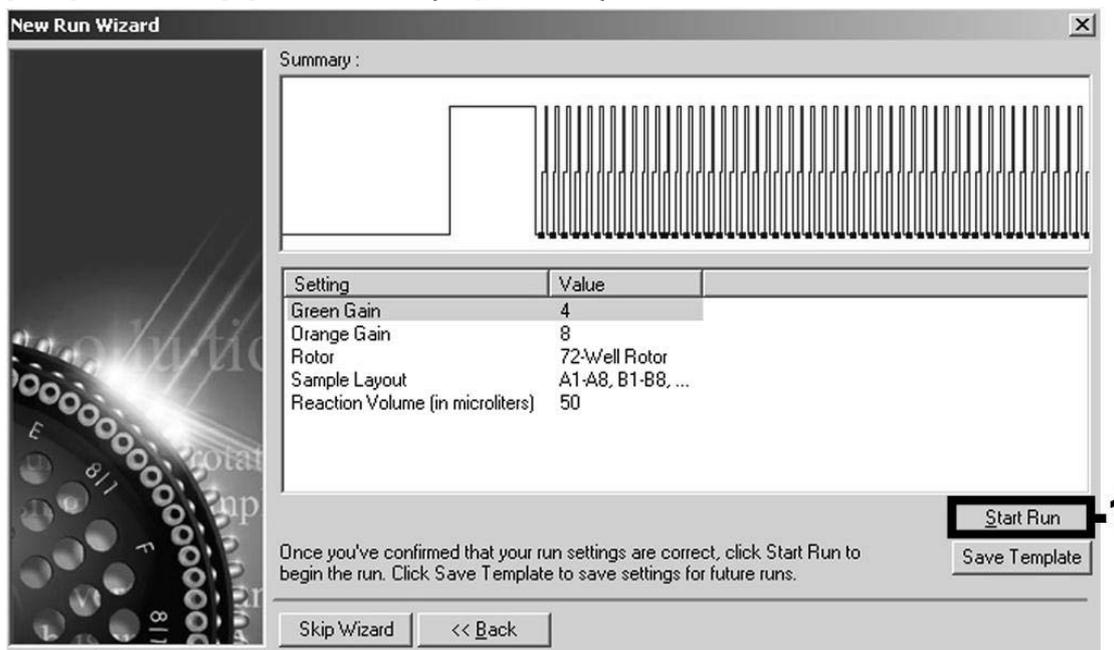

Figure 14. Starting the run.
Starting the run	Figure 14
8. The gain values determined by the channel calibration are saved automatically and are listed in the last menu window of the programming procedure (Figure 14). Click “Start Run”.